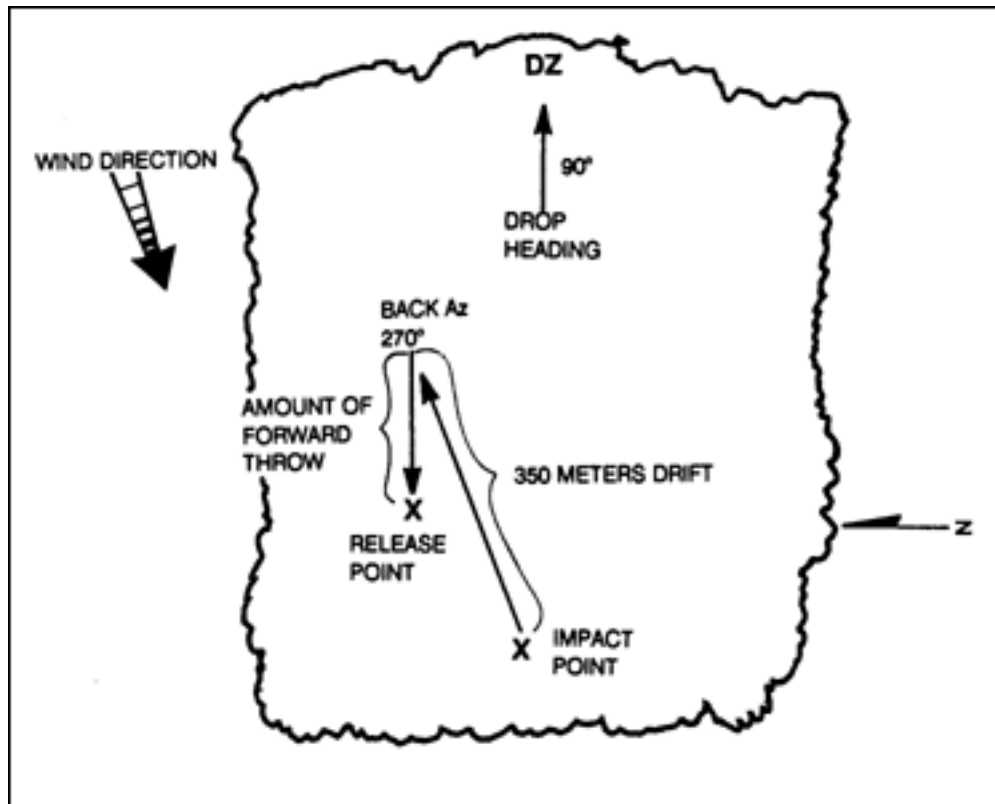

Figure 6-7. Release point location.
To determine a release point on a GMRS drop zone, Air Force fixed wing VIRS drop zone, or Army rotary wing VIRS drop zone (Figure 6-7)
- b. Chooses the VIRS DZ just as he would choose a GMRS or rotary-wing VIRS release point. (Figure 6-7 shows how to determine the location of the release point.) Unlike those release points, however, the USAF VIRS DZ RP requires no markings.